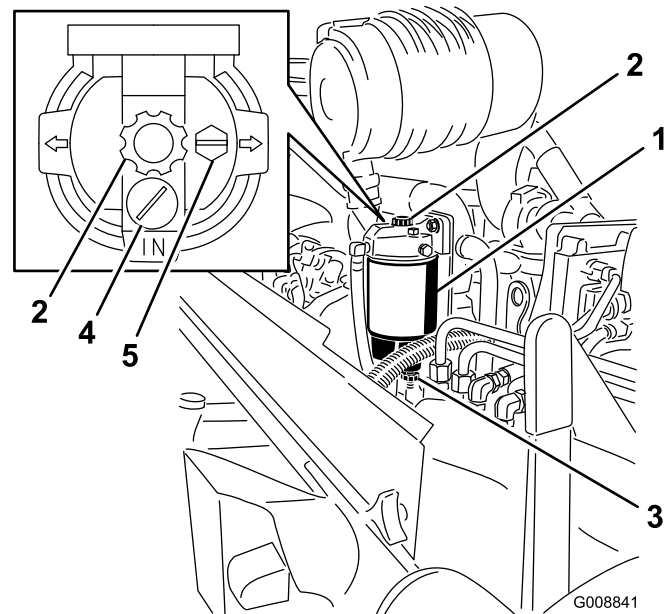

Figure 59
1. Place a clean container under the water separator (Figure 59).
2. Open the drain plug and operate the pump to drain off contaminants (Figure 59).
2. Drain some fuel by loosening the vent plug and opening the drain plug (Figure 59).